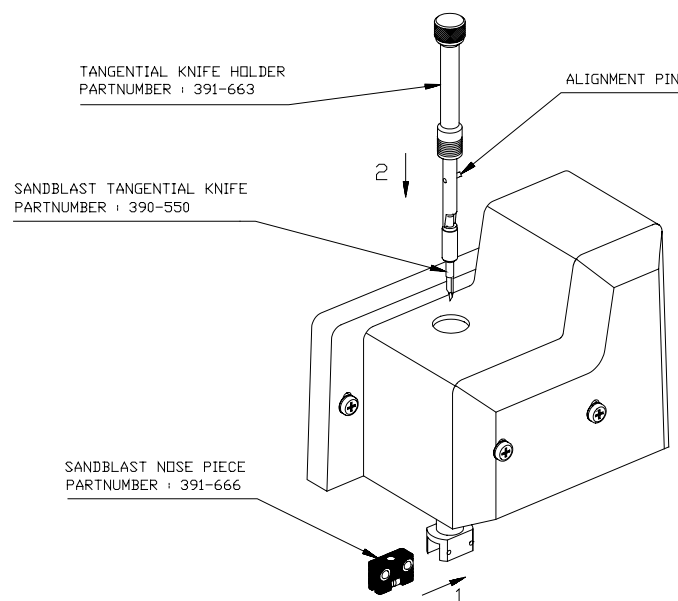

FIGURE 1-10:
- Insert the **black** nose piece as shown in Figure 1-10 until it clicks into place inside the nose piece holder. Before cutting masking stencil, always replace the standard nose piece (grey in colour) with the masking stencil nose piece (black in colour).
3. Gently insert the knife into the tool shaft as shown in Figure 1-10. Hold the nose piece in place with one hand and, with the other hand, turn the knife holder counterclockwise until the alignment pin fits into the small notch of the tool shaft. Now turn the knife holder clockwise until its threads take hold inside the tool shaft.